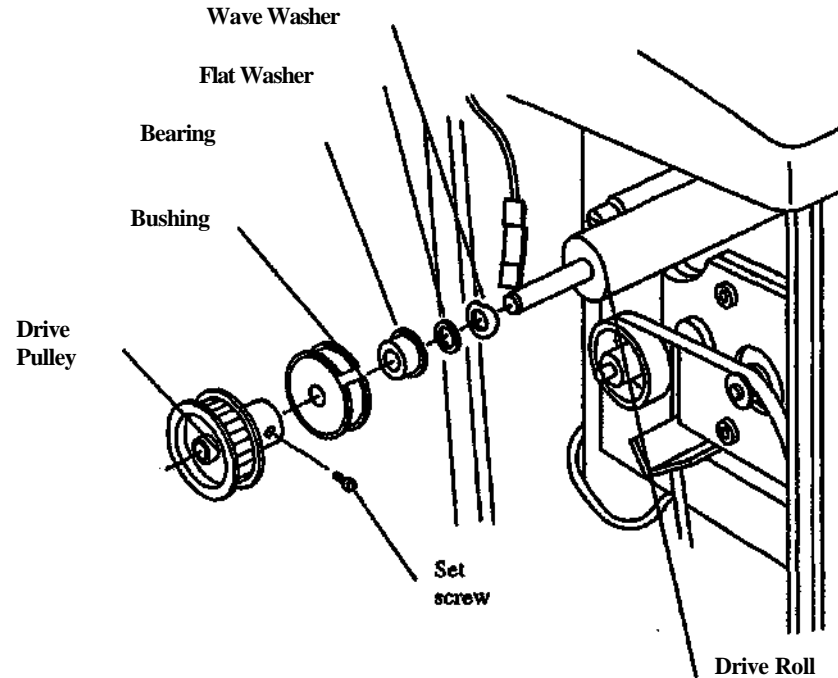

Figure 4. The Drive Roll and the Installed Parts
7. (Figure 4): Slide each Drive Roll to the left to expose the Drive Pulley:
2. (Figure 4): Install the following parts on the shaft of each new Drive Roll: